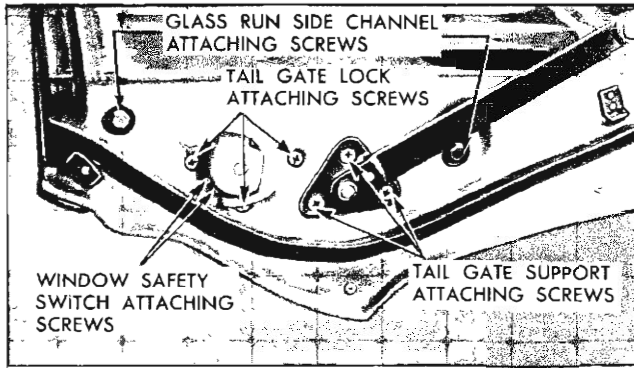

Fig. 87—Tail Gate Lock and Support
7. Suitably support tail gate to facilitate detachment of tail gate supports, then remove support attaching screws (fig. 87) from both sides of tail gate and fold supports against body.